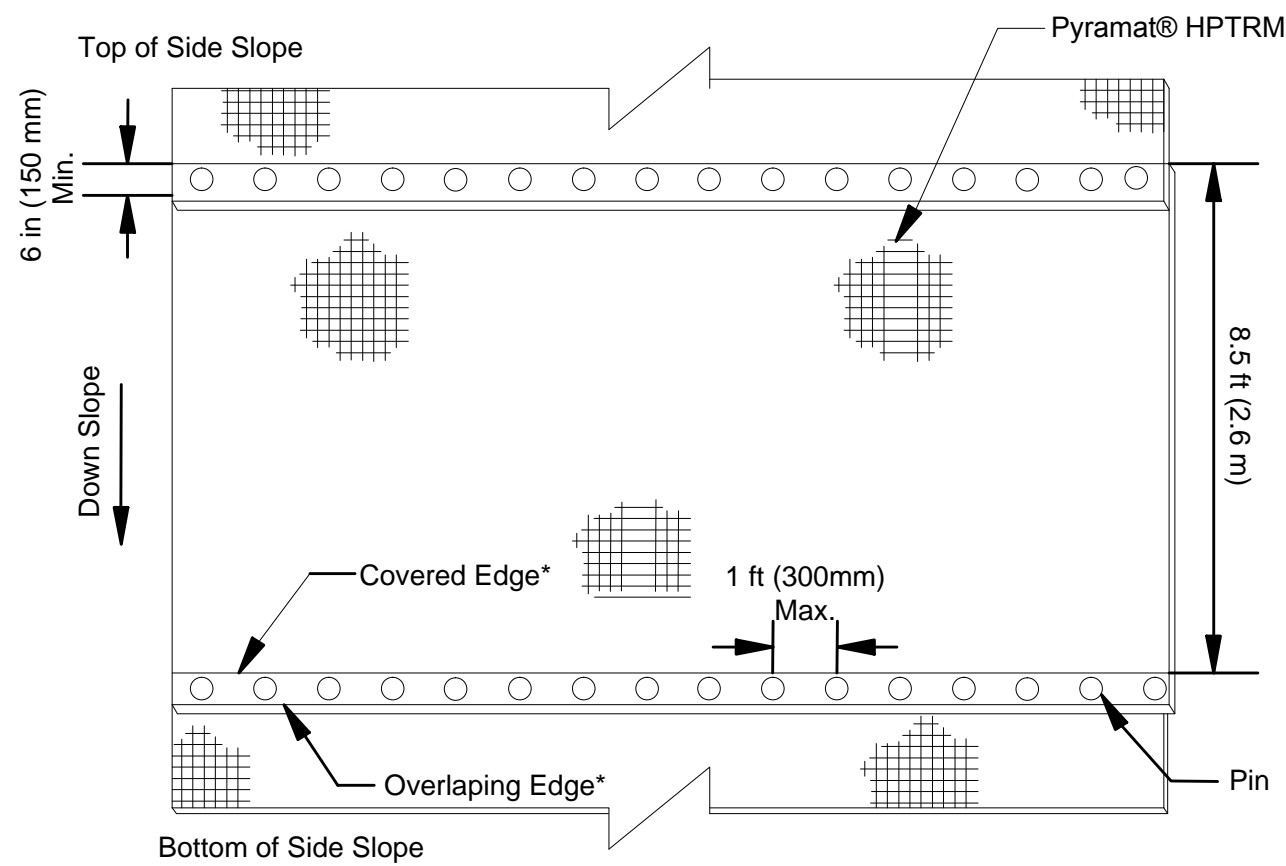

FIGURE 4:
- A. Roll edge overlap: 6 in (150 mm) minimum overlap with upslope mat on top. Secure with one row of ground pinning devices on 12 in (300 mm) centers (see Figure 4).